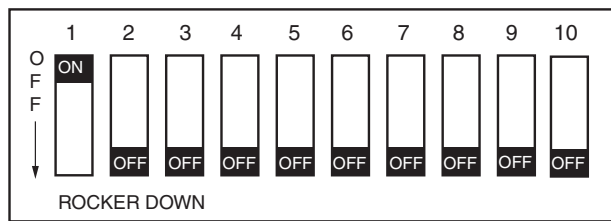

Fig. 163 — CoreSense Communication DIP Switch Settings for Kriwan Retrofit
- Review the DIP switch settings on the CoreSense module. DIP switch no. 1 should be ON (up position) and all other DIP switches should be OFF (down position). See Fig. 163.